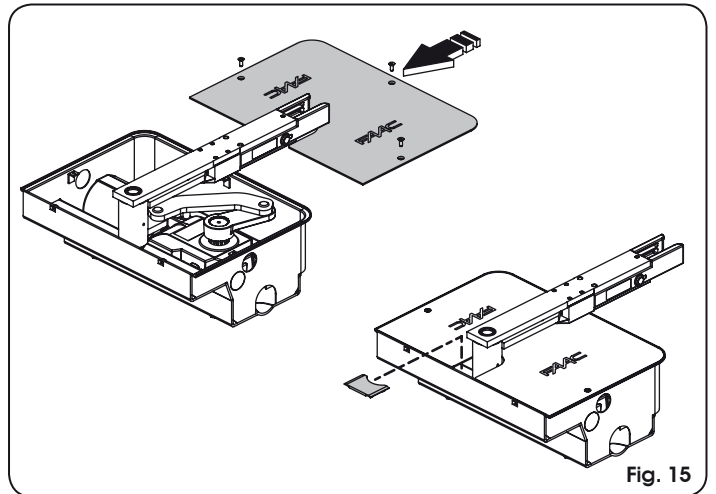

Fig. 15
- Fasten the box cover by means of the screws supplied (Fig. 15).